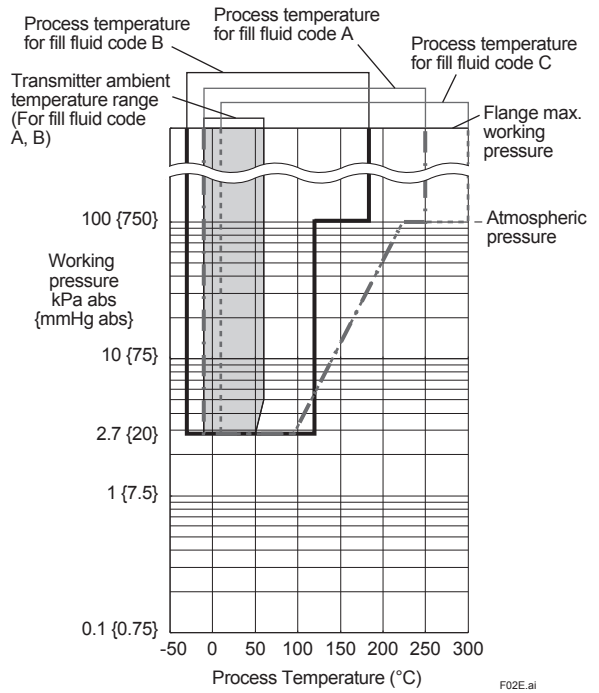

Figure 2. Working Pressure and Process Temperature
For atmospheric pressure or below, see Figure 2.
*1: See Figure 2 'Working Pressure and Process Temperature.'